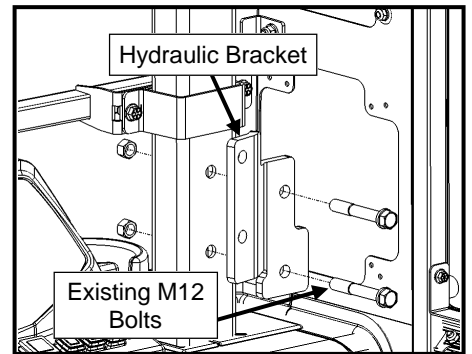

Figure 2.3: Hydraulic Relocation Bracket
- 2.3 Bolt hydraulic bracket to ROPS using the previously removed hardware, as shown in Figure 2.3.